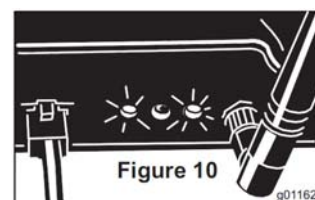

Figure 10
3. Then, if connected to the internet, the BaseStation is going to contact the myTurf servers and establish a connection. The connection LED will flicker and then flash during the attempt. A connection is established when the connection LED stays lit (Figure 10).